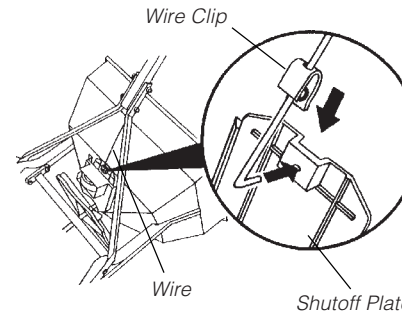

Figure 6
- Slide the wire retaining clip onto the wire. Insert the control wire through the hole in the shutoff plate, then slide the clip over the shutoff plate until the clip locks into place. See Figure 6.